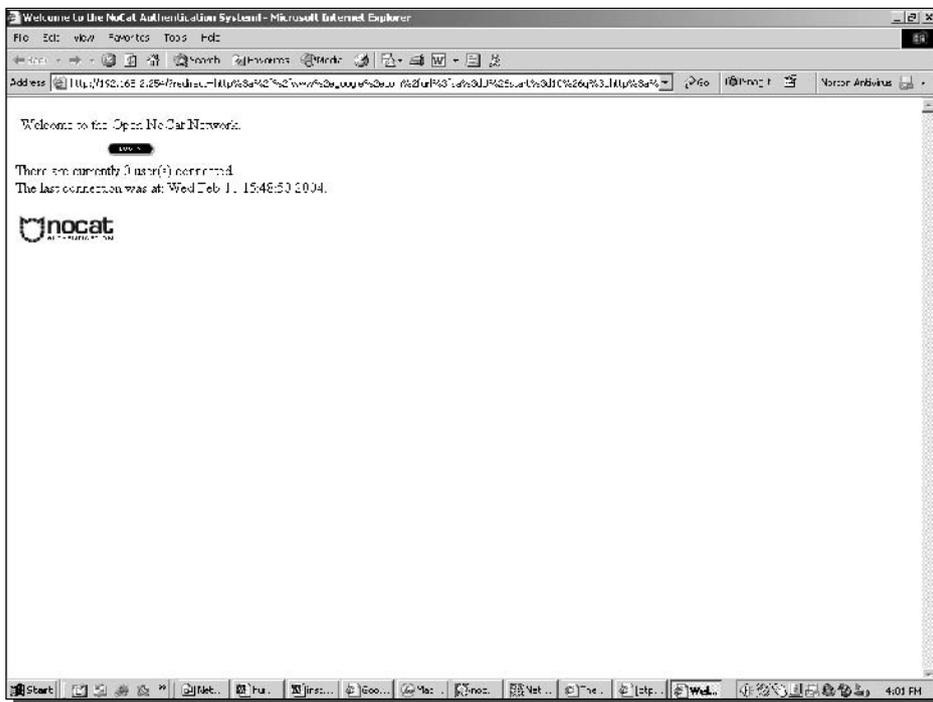

FIGURE 10-8: At subsequent logins, the splash page displays the time and date of the most recent login.
7. On the client, type `www.google.com` in the browser address bar, or attempt to refresh the Google screen, if it is already open. You get the NoCat splash screen, as shown in Figure 10-8.